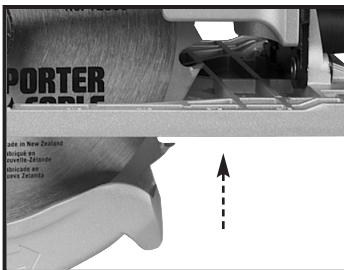

Fig. 4
2. Clean the inner blade flange, retract the telescoping guard, and place the new blade on the arbor. Verify that the teeth point up at the front of the saw (Fig. 4).